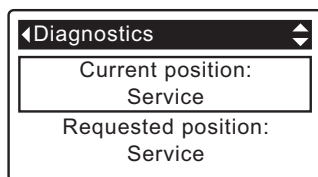

FIG. 89
4. Press the UP (▲) button to scroll through the list until **Current position** is displayed (See Figure 89).